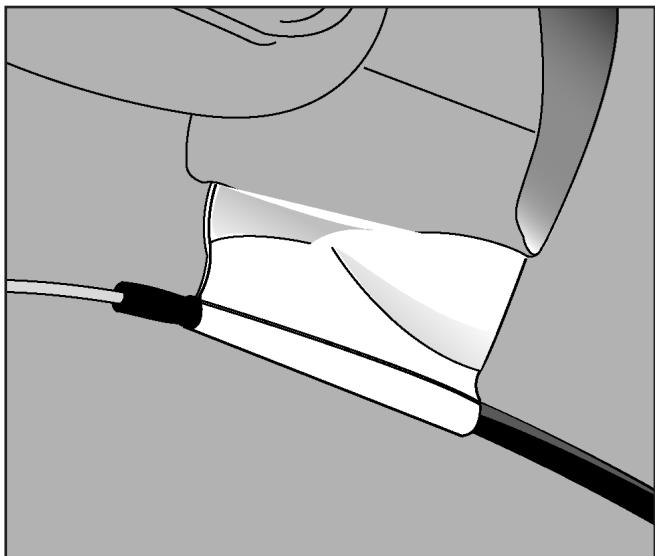

Figure 8
8. Apply 2 turns of protective sticky blue felt to the buffer tube 10mm (0.5") from the cut end. (Figure 8)